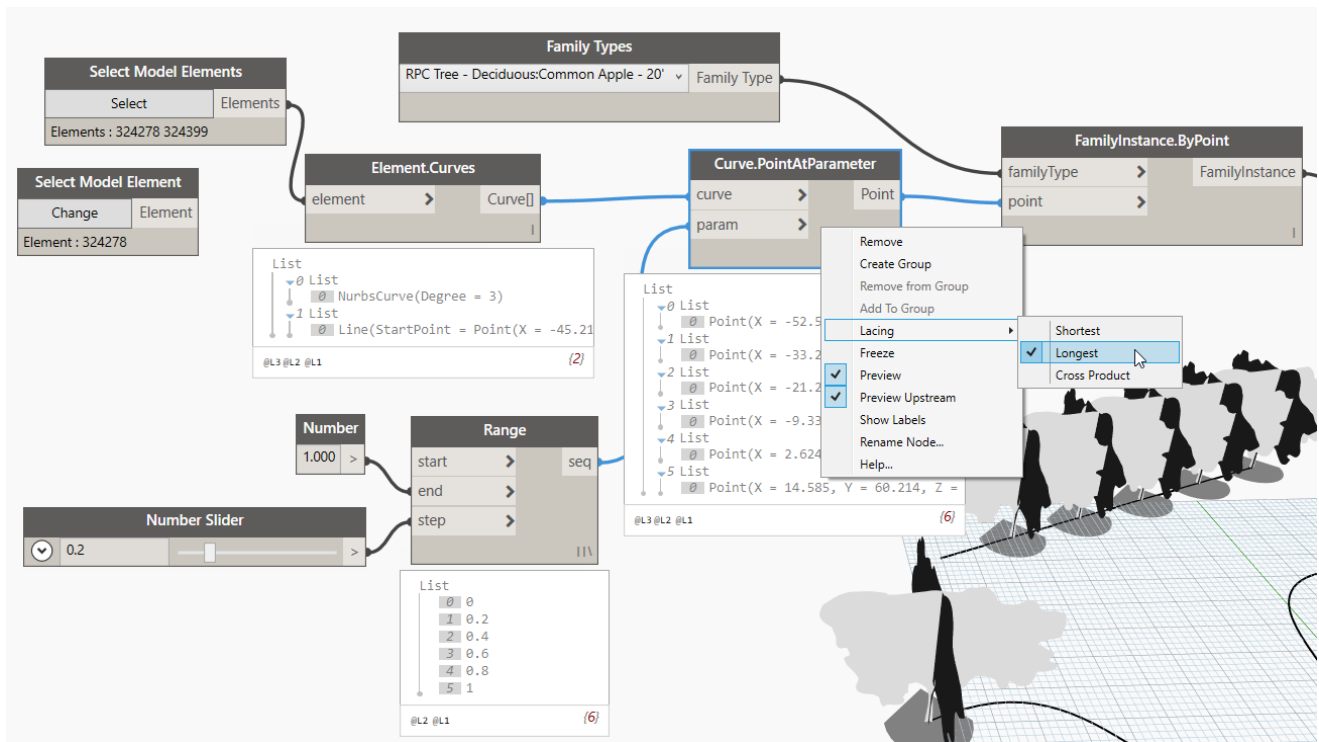

Figure 38
21. Right-click on the **Curve.PointAtParameter** node and choose: **Lacing>Longest** (see Figure 38).